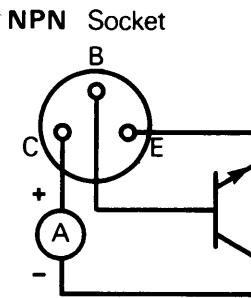

Fig. 12. Field calibration, f_T circuit.
- Insert NPN Transistor into front panel transistor socket labeled NPN (16).
- Place current meter in series with the collector lead. (See Fig. 12.)